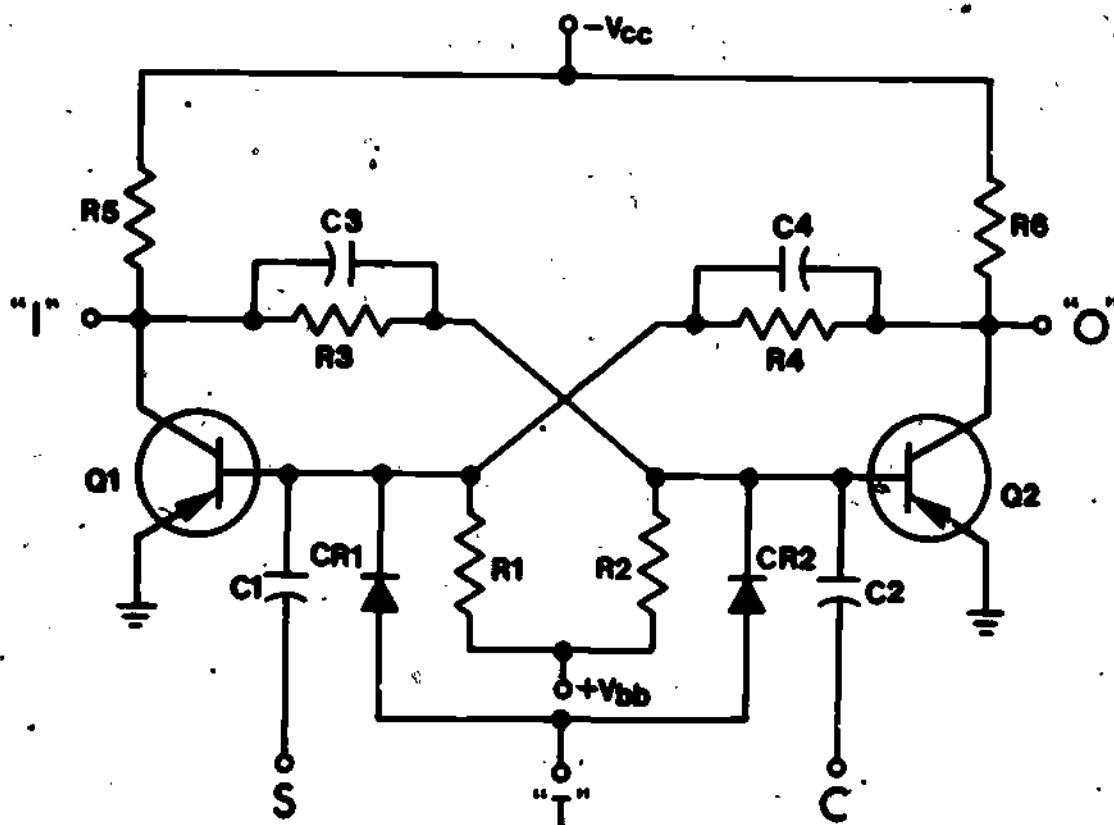

Figure 12
13. Some flip-flops use a third input lead. This third input lead is called a "Toggle" (T) input. Every time we apply a pulse to the T input, the flip-flop will change states. Refer to Figure 12.